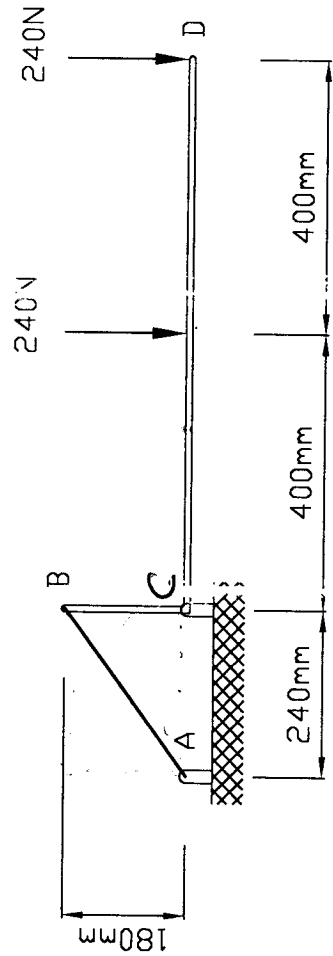

Fig 3
3. Determine the forces in BD and DE of the truss shown (*Fig 3*).